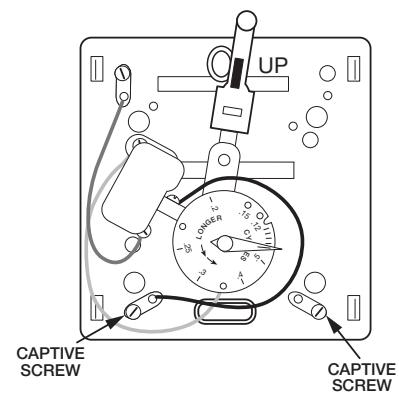

Figure 24.4
- d. Connect your thermostat wire to the terminals (**Figure 24.4**).